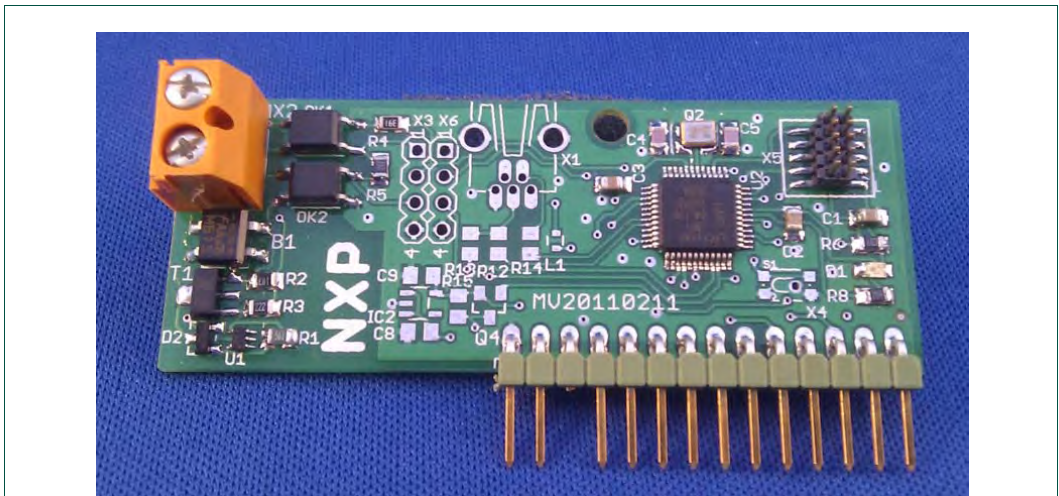

Fig 3. OM13026 LPC111x DALI slave demo board
3. NXP Cortex M0 LPC111x DALI Slave as shown in Fig 3.